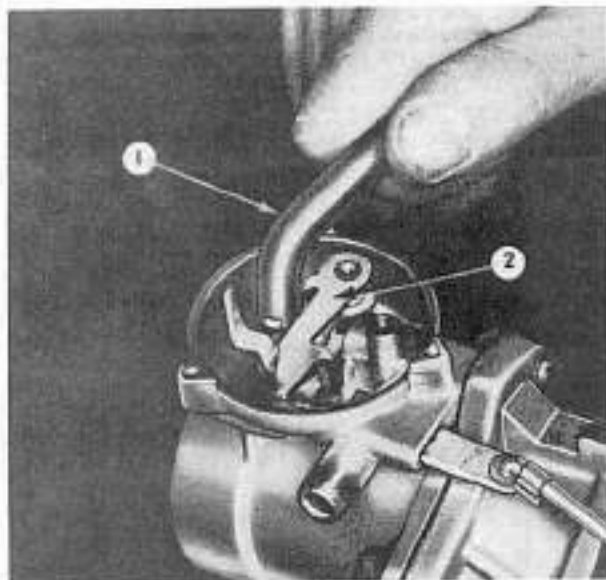

FIG. 413
If it is necessary to make an adjustment, remove the climatic control housing, gasket, and baffle plate. Then, using Unloader Adjusting Tool T-109-187 (1, Fig. 413), bend the upper finger on the choke trip lever (2) up or down as required until the correct clearance is obtained.